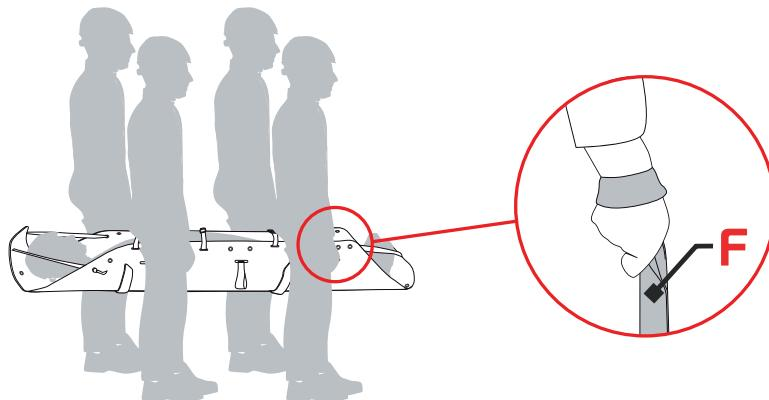

Fig.16
Manual transport with the handles (F) (fig. 16):	250 kg
- **Transportation with the handles (F) (fig. 16)**